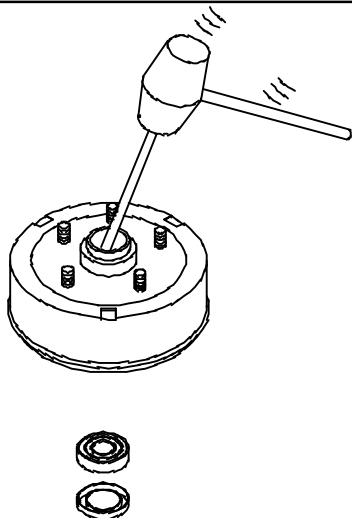

Figure: 4.9.3
2. Remove oil seal and bearing cone (with rollers), remove bearing cup by using a 'drift' or bar through the hub bore, and tapping the cup and oil seal out with a hammer. (See Figure 4-9.3)